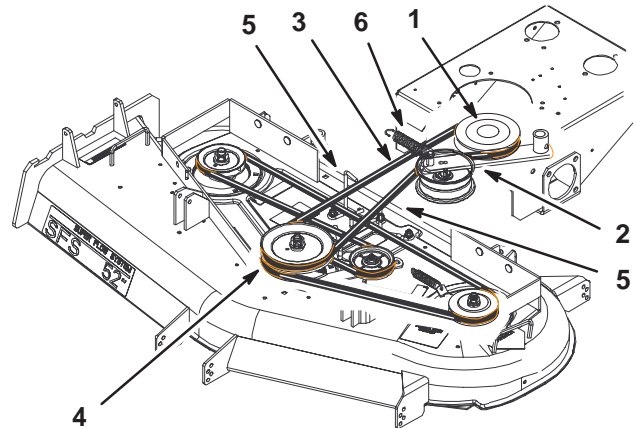

Figure 58
9. Adjust PTO drive belt guides an 1/8 in. from belt (Fig. 58).
5. Remove the idler spring from idler arm. Remove the drive belt from the PTO engagement pulley and the center spindle pulley (Fig. 58).
6. Remove the worn drive belt (Fig. 58).
7. Install the new drive belt onto the PTO engagement pulley and the top groove of the center spindle pulley (Fig. 58).
8. Install belt onto idler pulley and then install idler spring (Fig. 58).